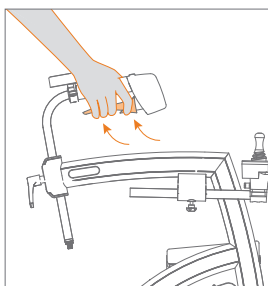

Figure 67: Apply the parking brake.
- c. Do you want to use the parking brake to ensure the rollator does not roll away? First squeeze the brake handles and simultaneously squeeze the parking brake levers. Then release the brakes. Your walker is now in the parking position (**Figure 67**).